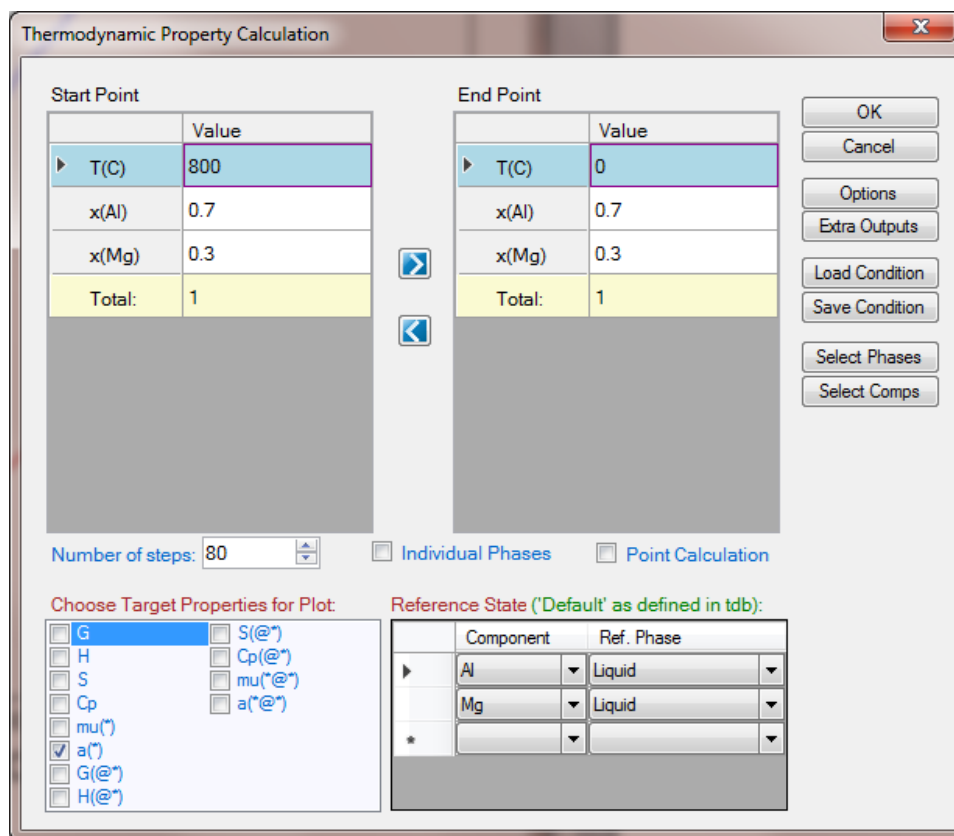

Figure 1.11.2: Calculation of the activity of Al and Mg from “Property” calculation
- Set Calculation Condition as shown in Figure 1.11.2. The property selected is a^* , and the reference states are set as Liquid for both Al and Mg;